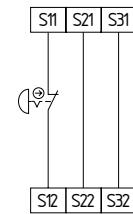

Fig. 5
**Single-channel emergency stop circuit with command devices to EN ISO 13850 and EN 60947-5-5 (see Fig. 5)**